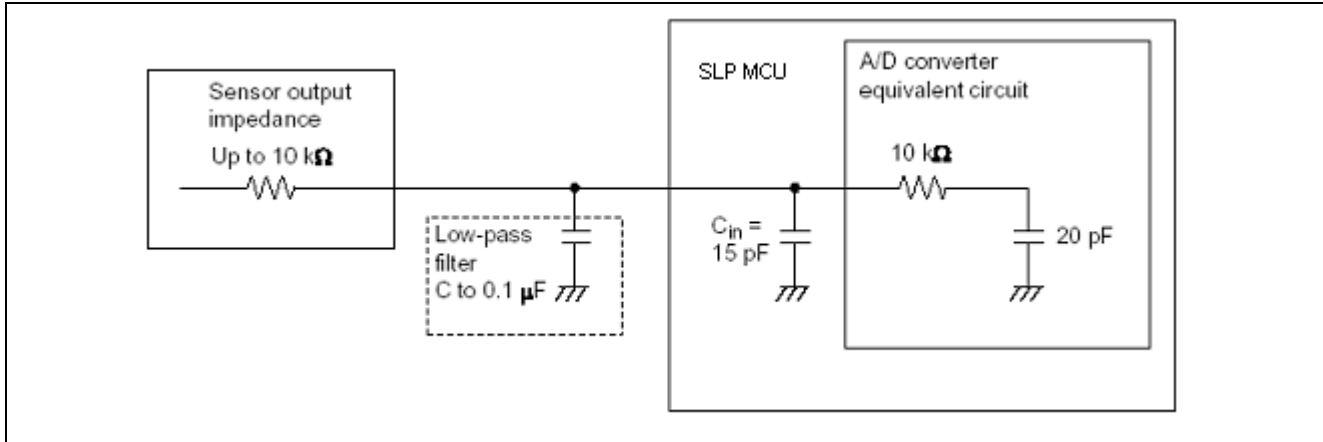

Figure 13 ADC Equivalent Circuit
- The maximum allowable signal impedance is 10kΩ. If the output impedance of the sensor exceeds 10kΩ, the input capacitance of the ADC sample-and-hold circuitry will not be charged sufficiently to ensure ADC precision. Figure 13 shows the equivalent ADC circuitry for the SLP MCU. If the external capacitance is large, the input load is effectively the internal 10kΩ input impedance. As a result of this low-pass filter effect, high-speed analog signals may not be reproduced correctly.